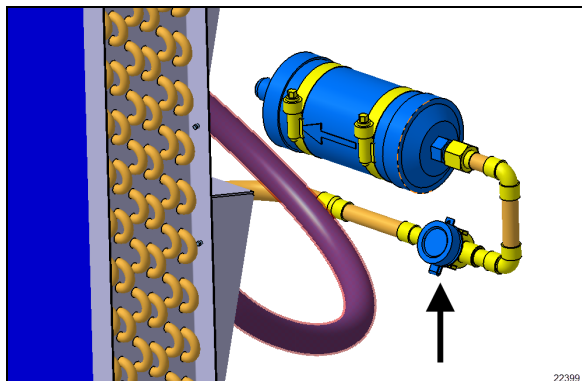

FIGURE 97: MOISTURE INDICATOR SIGHT GLASS
- 2- With the AC on for at least 10 minutes, the moisture indicator sight glass (FIGURE 97) should be clear, not milky, without bubbles in the stream of refrigerant. Bubbles in the moisture indicator sight glass are sign of refrigerant low charge. The filter-dryer nearby should be near constant temperature, less than 5°F differential between inlet and outlet. A partially blocked filter will make some flash gas and give a "milky" sight glass.